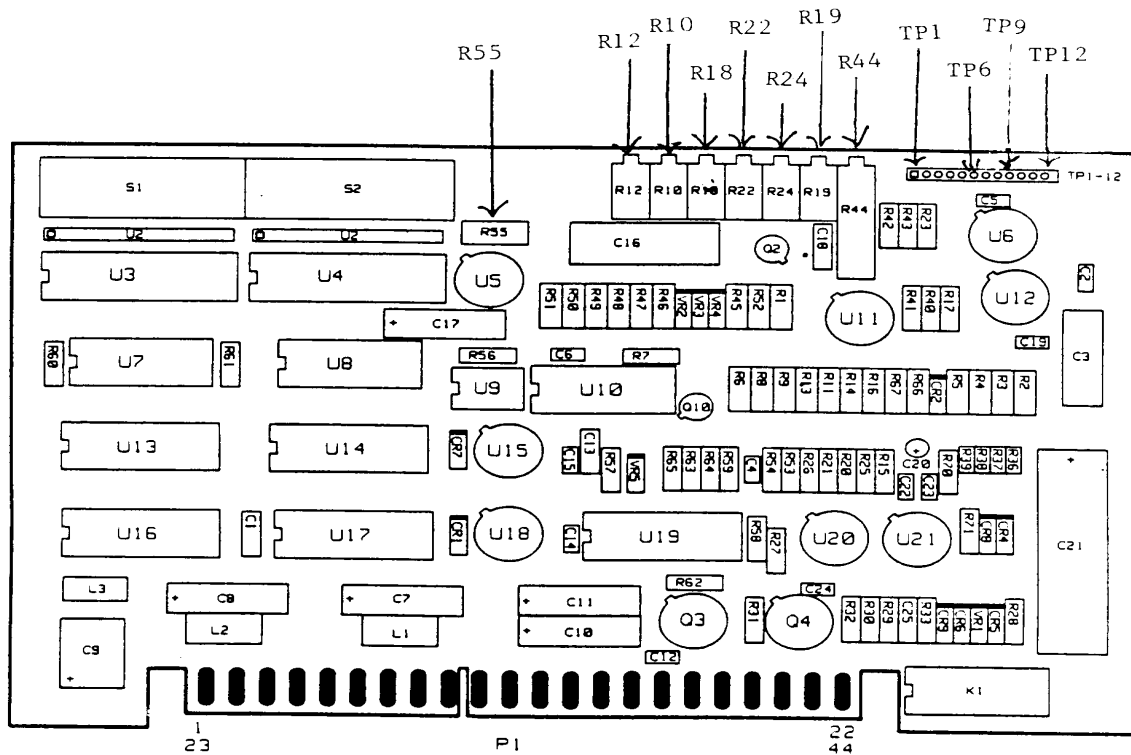
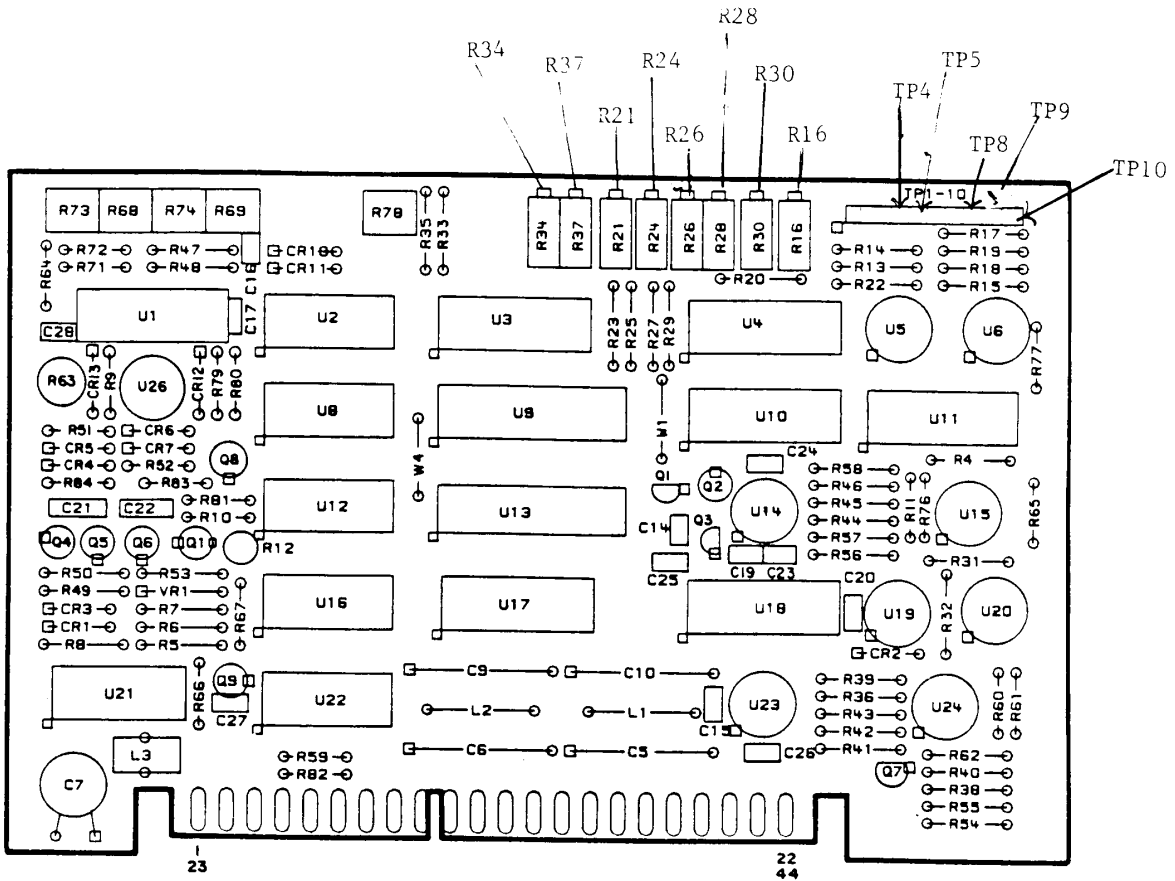
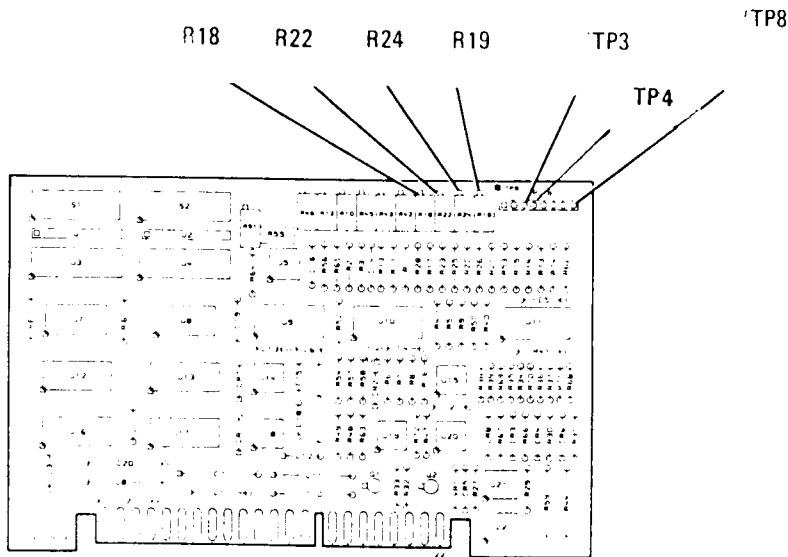

Figure 6. A8 board adjustment locations.
Figure 7. A6 board adjustment locations.
Figure 8. A7 board adjustment locations.
- (1) Connect multimeter to A8TP12 (+) and A8TP1 (-) (fig. 6).
- (2) Adjust A8R44 (fig. 6) for multimeter indication of -10.000 V dc (R).
- (3) Disconnect multimeter from A8TP12 and A8TP1. Connect to A6TP9 (+) and A6TP10 (-) (fig. 7).
- (4) Press **INSTR PRESET** and **CW** keys. Enter data **20 GHz** on keyboard.
- (5) Adjust **FREQUENCY VERNIER** control for multimeter indication of 10.000 V dc.
- (6) Disconnect multimeter from A6TP9 and A6TP10. Connect to A8TP6 (+) (fig. 6) and A7TP8 (-) (fig. 8).
- (7) Press function keys and enter corresponding data on keyboard as listed in (a) through (f) below:
- (8) The **FREQUENCY** display will indicate 2C83 and the **FREQUENCY/TIME** display will indicate 00; if not, repeat (3) through (7) above.
- (9) Adjust A8R22 (fig. 6) for multimeter indication of -7.000 V dc (R).
- (10) Press **↓** key two times. The **FREQUENCY** display will indicate **2C81**.
- (11) Press function keys and enter corresponding data on keyboard as listed in (a) through (d) below:
(12) The **FREQUENCY** display will indicate **2C83** and the **FREQUENCY/TIME** display will indicate **0F**.
(13) Adjust A8R24 (fig. 6) for multimeter indication of -20.000 V dc (R).
(14) Repeat (10) above.
(15) Press function keys and enter corresponding data on keyboard as listed in (a) through (d) below:
(16) The **FREQUENCY** display will indicate **2C83** and the **FREQUENCY/TIME** display will indicate **F0**.
(17) Adjust A8R19 (fig. 6) for multimeter indication of -26.500 V dc (R).
(18) Press ↑ key four times. The **FREQUENCY** display will indicate **2C87**.
(19) Press function keys and enter corresponding data on keyboard as listed in (a) through (d) below:
(20) The **FREQUENCY** display will indicate **2C8B** and the **FREQUENCY/TIME** display will indicate **00**.
(21) Disconnect multimeter from A8TP6 and connect to A7TP3 (fig. 8). Adjust A7R22 (fig. 8) for multimeter indication of -3.000 V dc (R).
(22) Press ↓ key two times. The **FREQUENCY** display will indicate **2C89**.
(23) Press function keys and enter corresponding data on keyboard as listed in (a) through (d) below:
(24) The **FREQUENCY** display will indicate **2C8B** and the **FREQUENCY/TIME** display will indicate **0F**.
(25) Adjust A7R24 (fig. 8) for multimeter indication of -19.500 V dc (R).
(26) Repeat (22) above.
(27) Press function keys and enter corresponding data on keyboard as listed in (a) through (d) below:
(28) The **FREQUENCY** display will indicate **2C8B** and the **FREQUENCY/TIME** display will indicate **F0**.
(29) Adjust A7R19 (fig. 8) for multimeter indication of -9.500 V dc (R).
(30) Press keys as listed in (a) through (c) below: